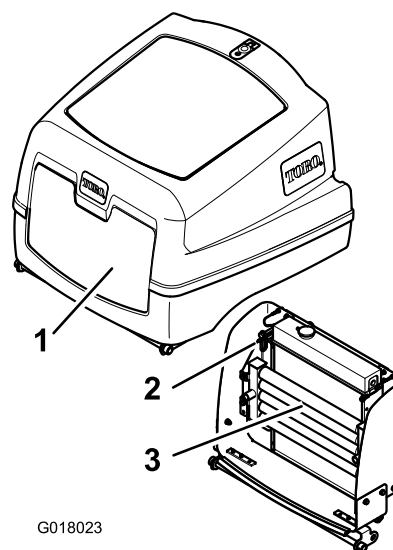

Figure 56
4. Release the latch and open the engine cover (Figure 56).